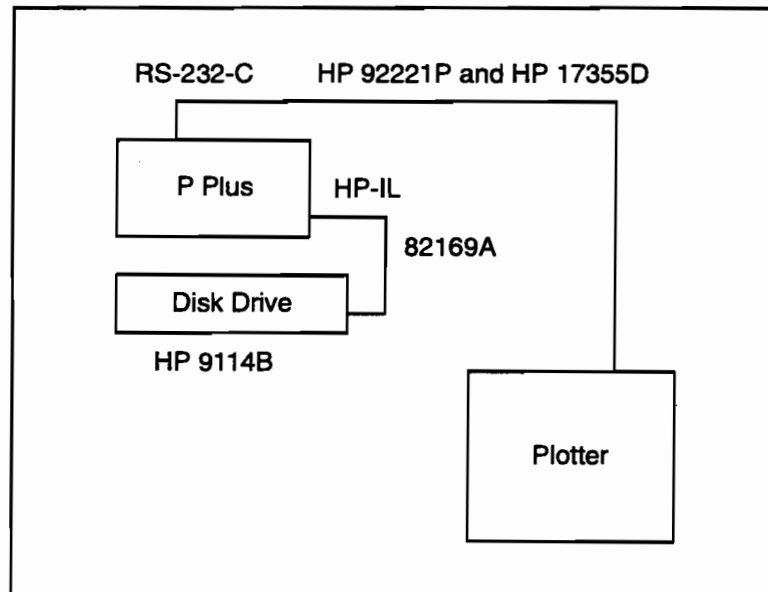

Figure 3-51. Demo Plot Setup
6. Connect the Portable PLUS as shown in Figure 3-51.
7. Turn the Portable PLUS and the disk drive ON (I). If the service disk programs are already loaded onto the internal "E" drive, go to step 9.
9. Turn the plotter ON (I).